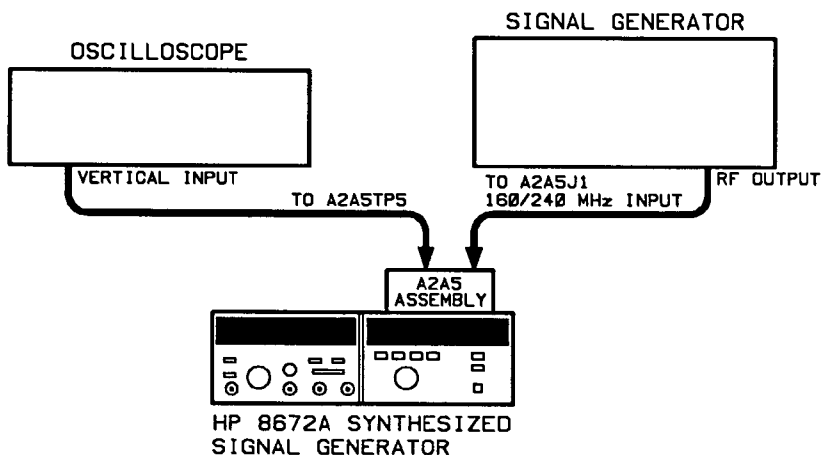

Figure 5-4. 20/30 MHz Divider Bias Adjustment Test Setup
7. Connect the equipment as shown in figure 5-4.